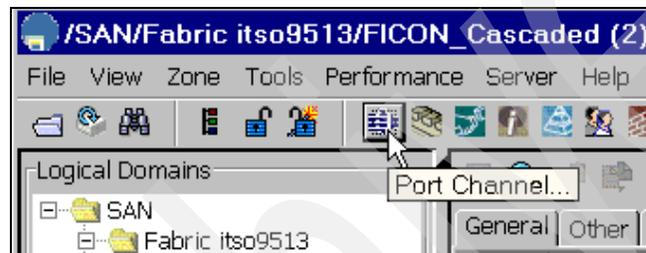

Figure 34 PortChannel Wizard in FM
1. After verifying that both ISLs have come online, select the PortChannel wizard icon as shown in Figure 34.